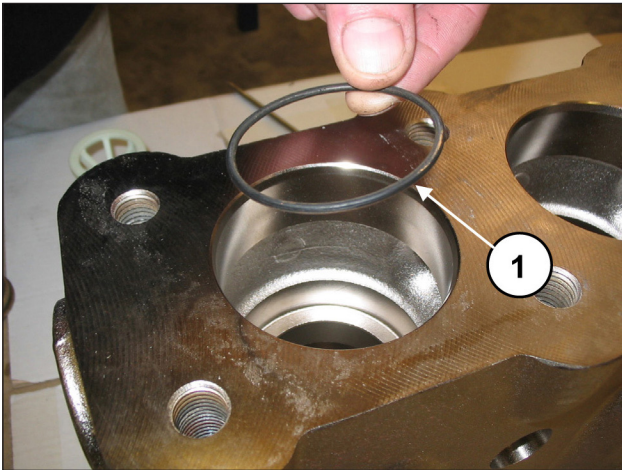

Fig. 112
Insert the O-ring, exploded view pos. 6 (pos. ①, Fig. 112).